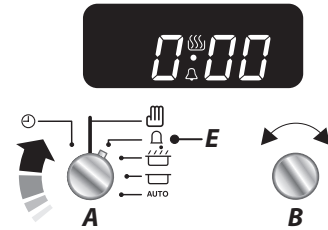

Fig. 4.2
1. Turn the **Timer (A)** knob to the **Minute Minder (E)** setting – it should click into position (**Fig. 4.2**).